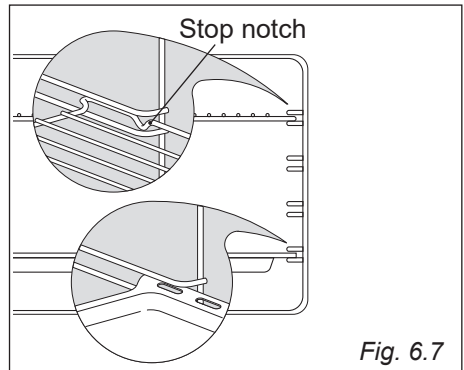

Fig. 6.7
- Slide the rack into the runners (fig. 6.7). The rack must be fitted so that the safety notch, which stops it sliding out, faces the inside of the oven;